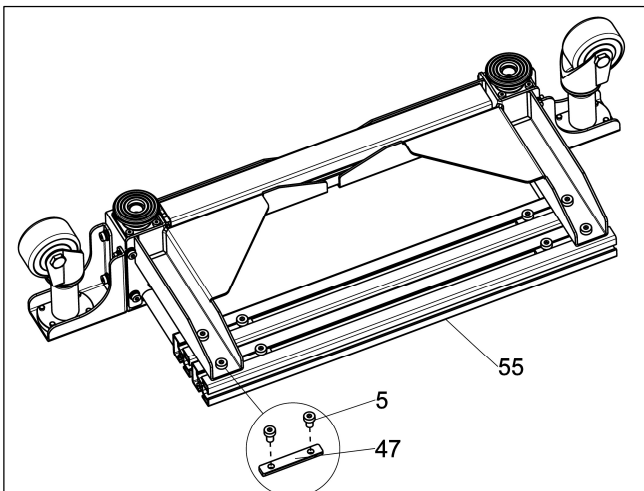

Fig.13
a. Place the rear-corner bracket assembly “A” upside down on the ground, loosen fastener “5”, and remove the long side rails “55” and locking block “47”. (see **Fig.13**)